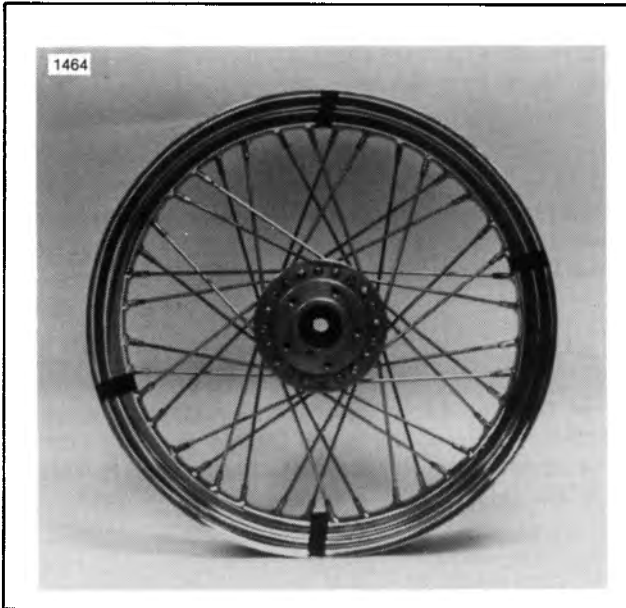

Figure 2-20. Marking Spoke Groups
1. See Figure 2-20. Divide the wheel spokes into four groups of four and mark the center of each group with a piece of tape. The groups should be directly across from one another and approximately 90° apart. Tighten the spokes in these four groups finger tight, leaving all others loose.